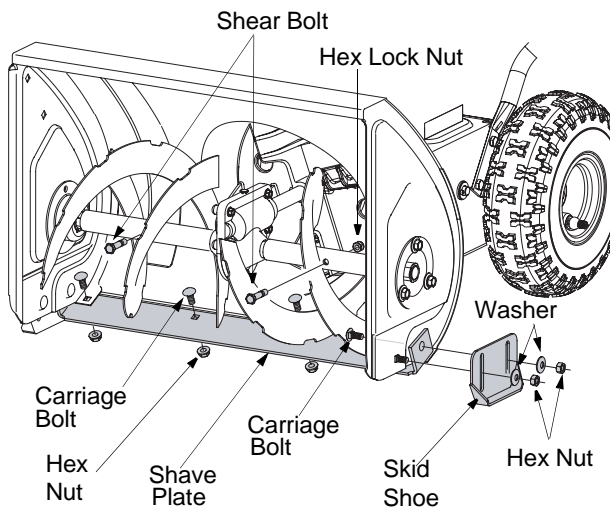

Figure 9
- Remove two carriage bolts, belleville washers and hex nuts which secure each skid shoe to the auger housing. See Figure 9.
- **To remove shave plate:** Remove both skid shoes and hardware including carriage bolts, belleville washers and hex nuts which attach shave plate to the snow thrower housing. For location of shave plate, see Figure 9.
The augers are secured to the spiral shaft with two shear bolts and hex lock nuts. If you hit a foreign object or ice jam, the snow thrower is designed so that the bolts may shear. Refer to Figure 9.